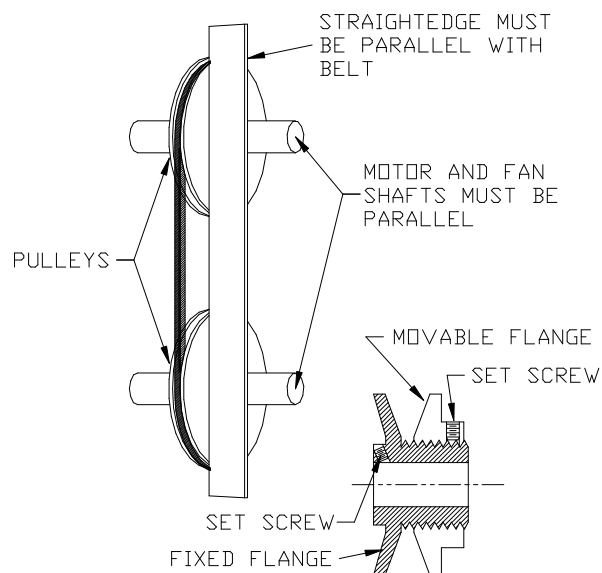

FIGURE 8 - FAN PULLEY ADJUSTMENT
3. Loosen movable pulley flange set screw (Figure. 8).
PULLEY ALIGNMENT - Shut off unit power supply. Loosen fan motor pulley set screws and slide fan pulley along fan shaft. Make angular alignment by loosening motor from mounting bracket (See Figure. 8).